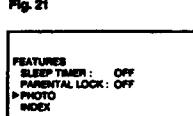

Fig. 23
- 3 Select "PHOTO" with $\Delta+$ or $\nabla-$ and press OK. (See Fig. 22.) The preset programme is displayed in nine separated screen in sequence. (See Fig. 23.)